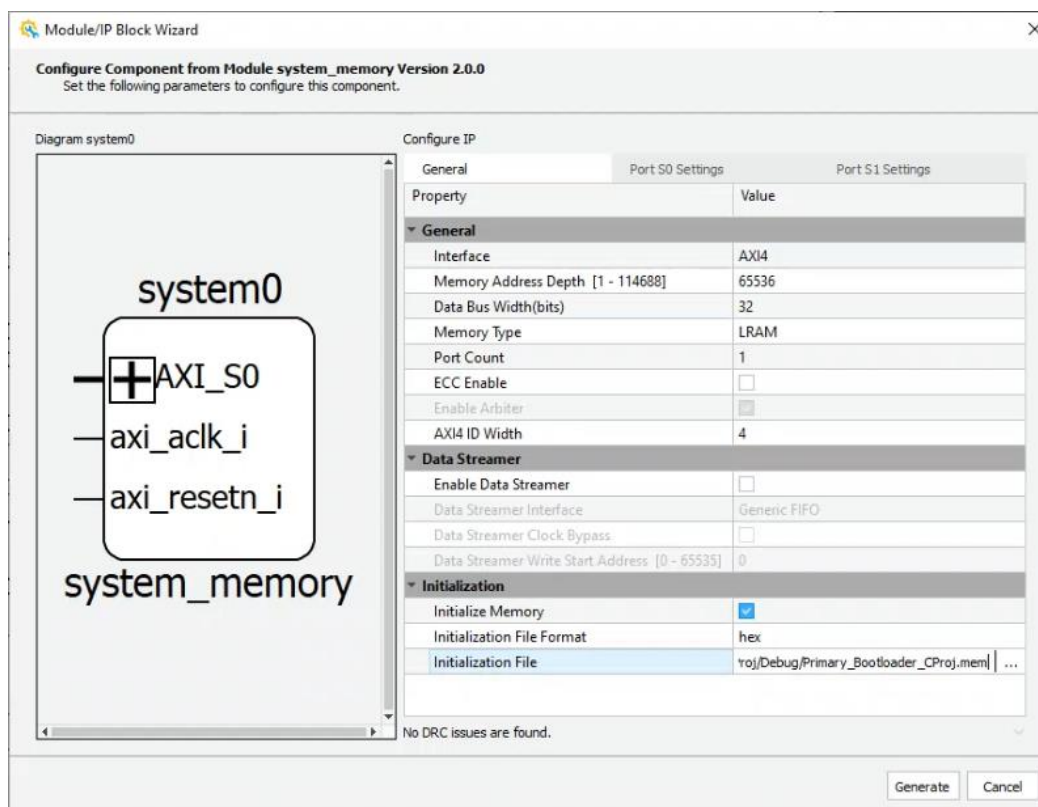

Figure A.14. System Initialization File
5. A pop-up appears on the screen as shown in Figure A.14.